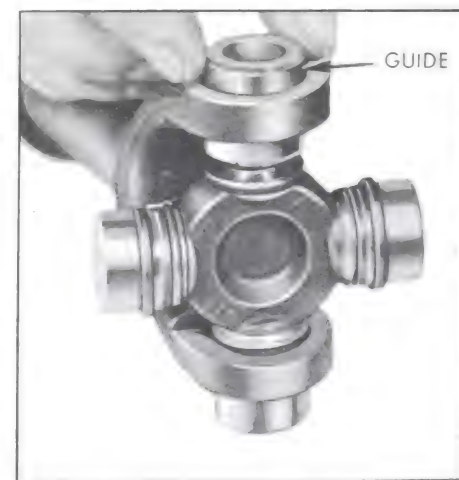

Figure 6-60—Installing Guide on U-Joint
5. Release pump and propeller shaft. Install Guide J-9522-8 through the bearing hole in the yoke and over the journal end of the spider. See Figure 6-60. This